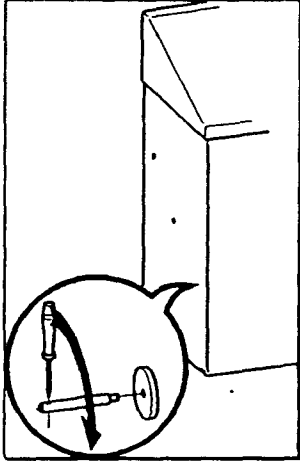

Fig.15
A. Install the accessories pegs (fig. 15). Tighten them firmly.
B. Remove the screws that secure the machine to the pallet and slide it onto the floor where it is to be installed (Fig. 15/A).